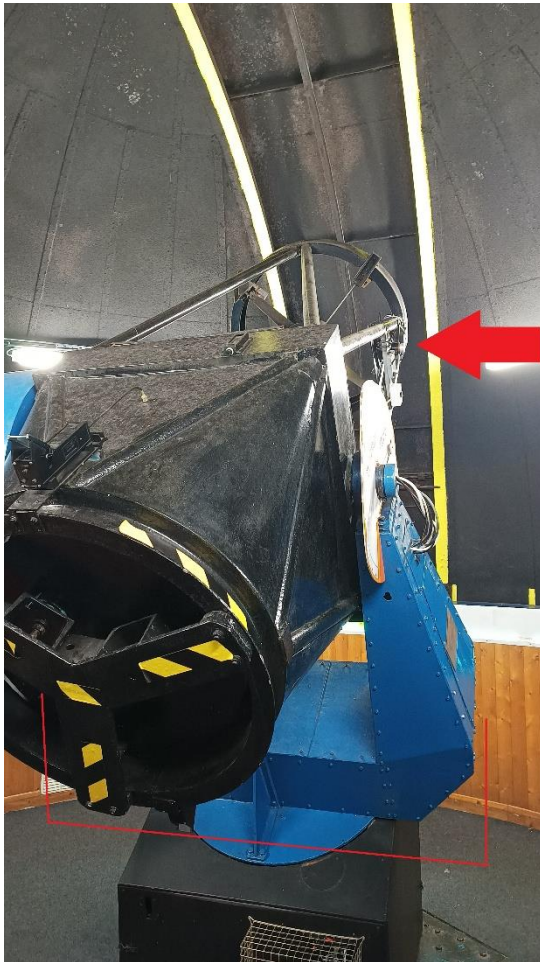

Fig. 24: Telescope back in the HOME position
Again, the telescope will move in both axes. Once the telescope base is square, then release the LEFT button, just leaving the DOWN button pressed. Release the DOWN button when the telescope is back in the HOME position with the telescope base 'square on' and the eyepiece back on the RIGHT-HAND side, as shown in Fig. 24 below:
4) If the telescope has been inverted ('flipped over'), then it MUST be inverted back to the HOME position, that being with the eyepiece on the RIGHT-HAND side as you look towards the secondary mirror (See Fig. 24 and how to invert (Section 13) above).
5) Now bring the telescope back up to '0' degrees as shown on the scale and slew base back round to the SOUTH (See Fig. 24: HOME position).